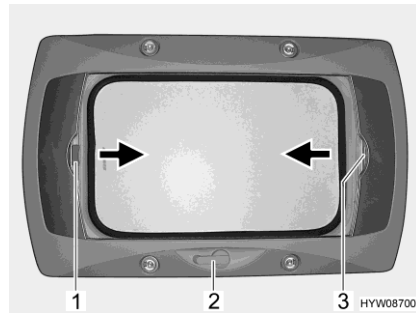

Fig. 53 Wind-up skylight
- Rotate the hand crank (Fig. 53,2) until a resistance can be felt.
- Pull the handle of the Roman shade (Fig. 53,3) in the direction of the arrow and release it in the desired position. The Roman shade will stay in that position.
- Use the handle to pull the insect screen (Fig. 53,1) in the direction of the arrow to the opposite handle of the Roman shade (Fig. 53,3) and allow it to engage.
- Press the handle of the insect screen (Fig. 53,1) at the back upwards and detach the insect screen from the Roman shade (Fig. 53,3).